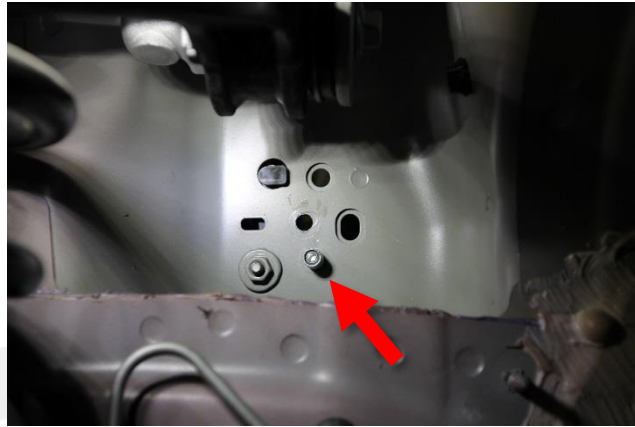

Figure 4
- Using the rivet nut tool, install a new rivet into the lower rivet hole from inside the underhood area (Figure 4).